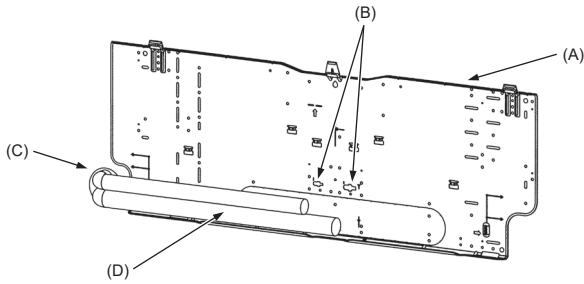

Fig. 3-5
3.3. When embedding pipes into the wall (Fig. 3-5)
- (A) Mount board (1)
- (B) Reference marking for flare connection
- (C) Through hole
- (D) On-site piping